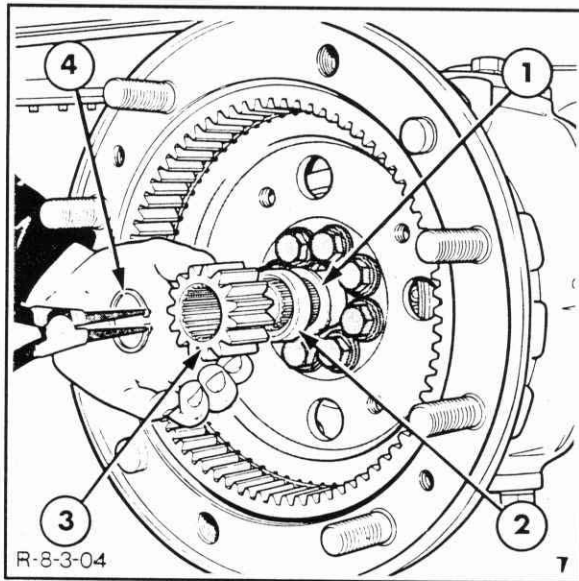

Figure 7-82
8. Install the sun gear/axle shaft thrust washer, spacer, and sun gear, Figure 7-82. Lock the sun gear to the axle shaft using a new snap ring.